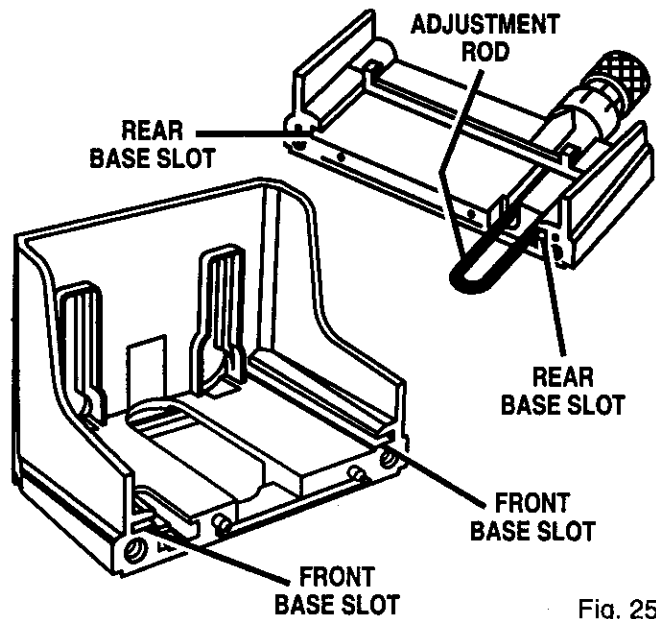

Fig. 25
- Clean wood particles and resin from slots and surrounding areas on front and rear base. See Figure 25. Apply a thin coat of general purpose grease in slots or on bearing plate where base slides.
- Replace rear base. Position adjustment rod in its proper place as shown in Figure 25.
- Reassemble bottom shoe. Tighten screws (4) securely.